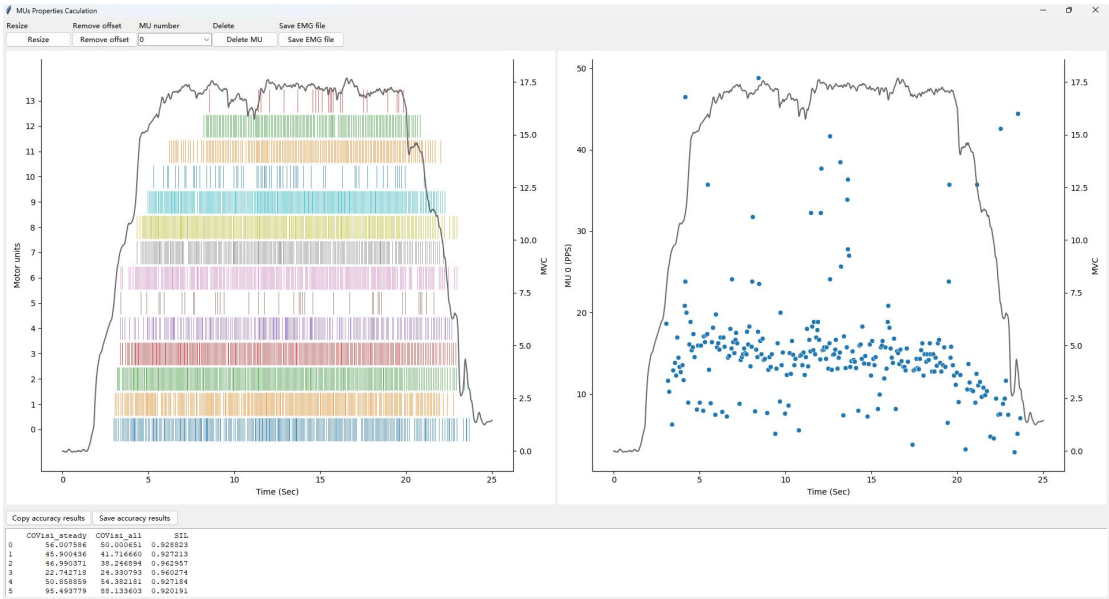

Figure 2
1.2 When running this script, the user needs to first choose to load a JSON format file of an already decomposed EMG recording. Subsequently, a GUI as shown in Figure 2 will be displayed.